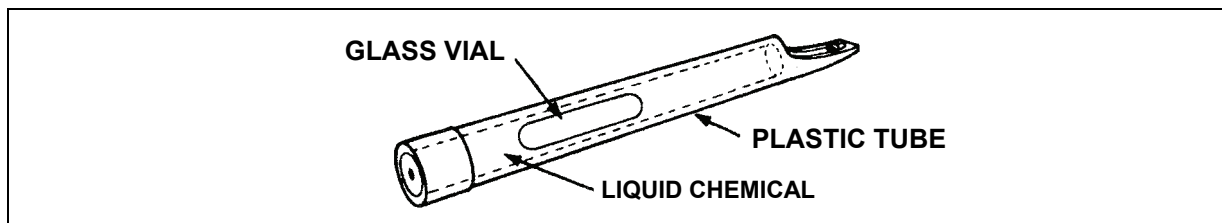

Figure 4-13. Chemlight Stick
- **Lights.** Beacon (bean bag) lights are used for both the inverted "Y" and "T" light formations. If beacon lights are unavailable, several alternate methods can be used to mark the landing site. Cyalume light sticks (commonly referred to as chemlights) are often used to mark the landing site. These lights (Figure 4-13) are plastic tubes filled with a liquid chemical and a glass vial inside containing another chemical. When the glass vial is broken (by squeezing the plastic tube), a chemical reaction between the two liquids produces a glowing light. Depending upon the size of the tube, the glow lasts from 30 minutes to 12 hours. The chemlights can be taped or